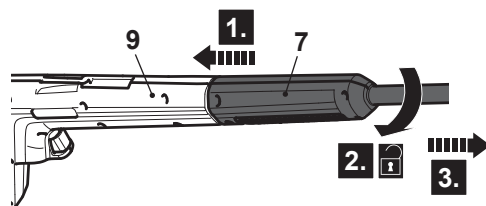

Fig. 6
2. Press the extension lance (7) towards the spray gun (9) (Fig. 6, step 1) and turn it anti-clockwise (step 2) to remove it (step 3).